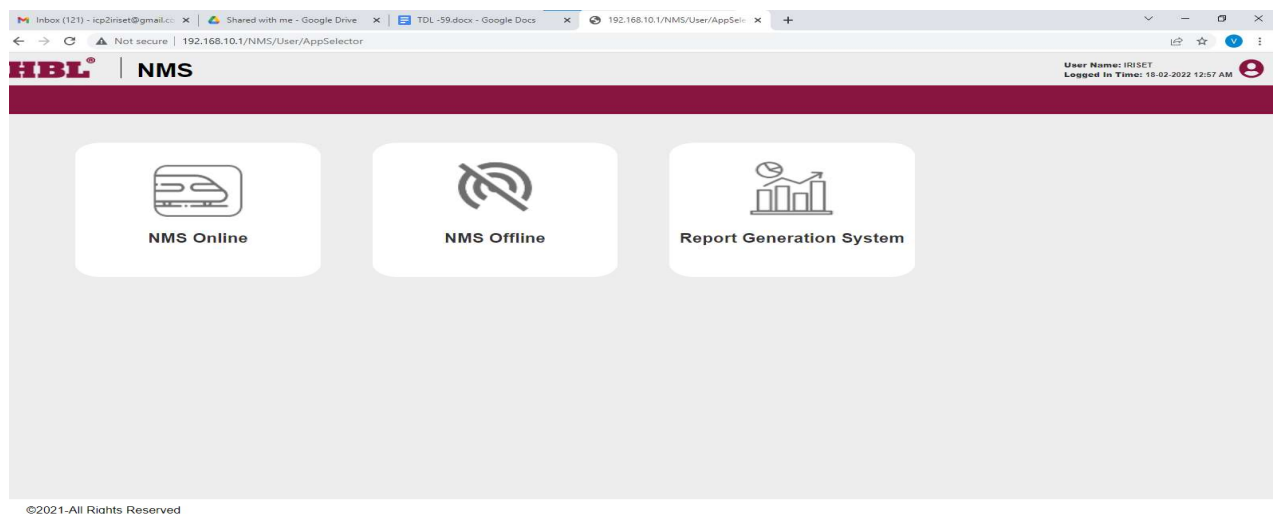
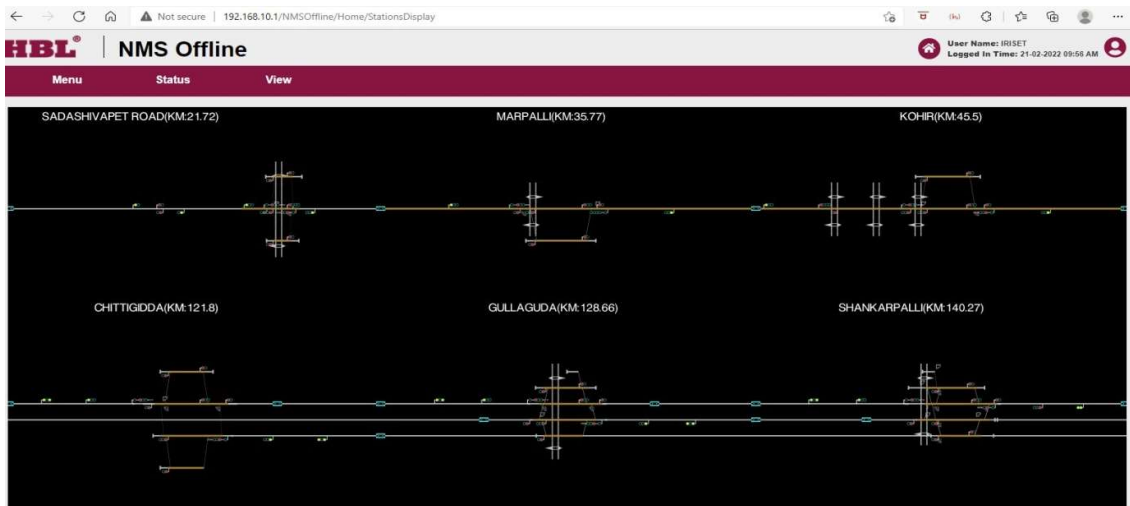

Fig.2 App selection Screen
Fig 7. NMS offline screen
4. After the login button is pressed an app selection page will open with all three option which is available on NMS server as shown in figure 2.
For playback of events which have taken place earlier, first 3 steps are common as explained earlier , NMS offline is selected from the app selector option available on page as shown in fig 2.After this NMS offline screen will be available as shown in fig 7 below.
- 1.Report generation system is selected from app selection screen as shown in fig 2.